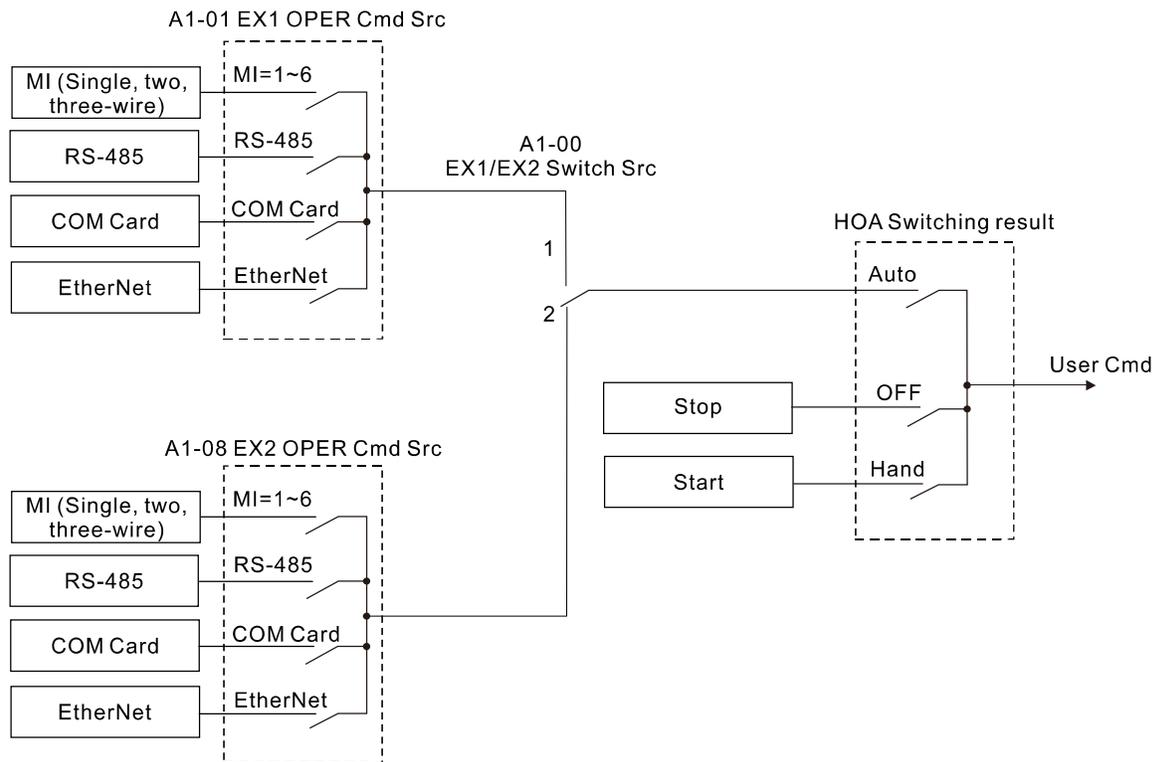
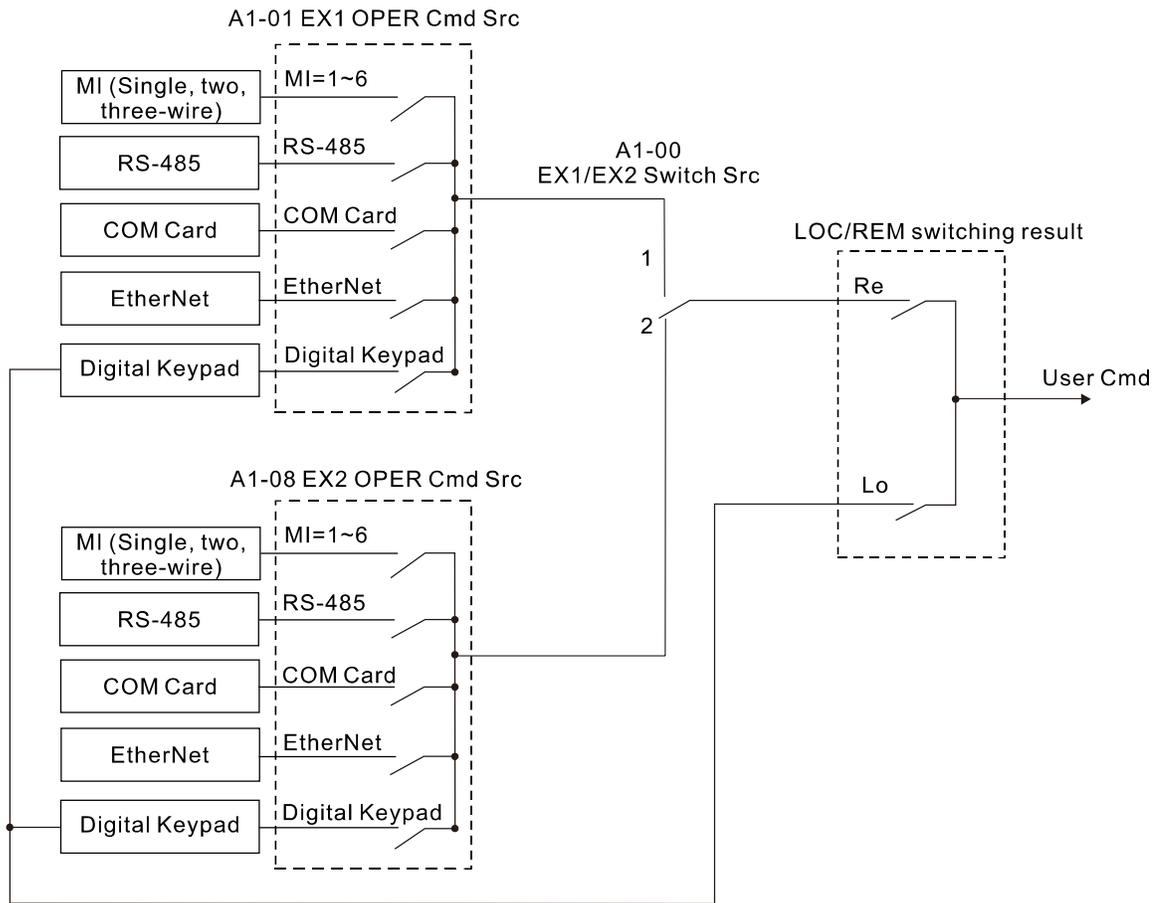

Figure 1 Drive Operation Roadmap (HOA)
Figure 2 Drive operation diagram (LoRe)
-  Refer to Pr. A4-00 HOA/ LoRe selection, when it is set as AUTO or REM mode, Pr. A1-01 and A1-08 set the VIDAR operation command source. Refer to the drive operation roadmap shown in the figure 1 and figure 2 below.